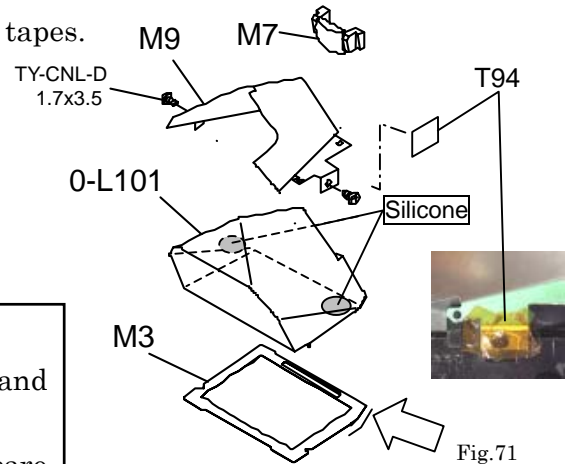

Fig.71
- Apply silicone to the place as shown in Fig.71, and leave them until they become hard.